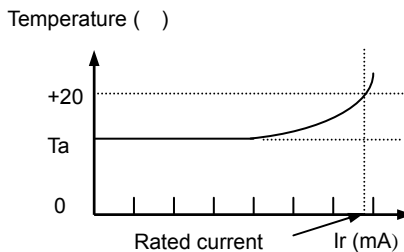

Fig. 5.3.3-2
- e. When operating temperatures exceeding +85 , derating of current is necessary for chip ferrite beads for which rated current is 1000mA and over. Please apply the derating curve shown in chart Fig. 5.3.3-3 according to the operating temperature.